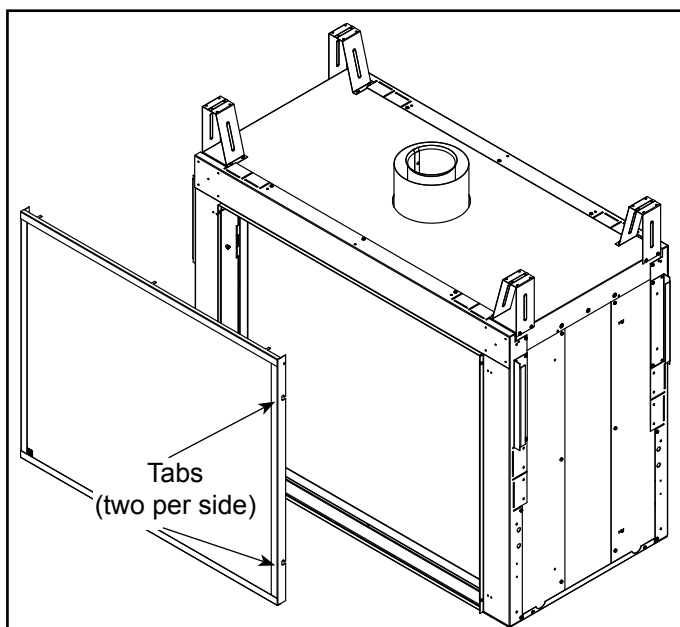

Figure 10.19
2. Align the four slots on the sides of the screen frame (two top, two bottom) *Figure 10.19* with the corresponding shoulder bolts on the firebox *Figure 10.19*.